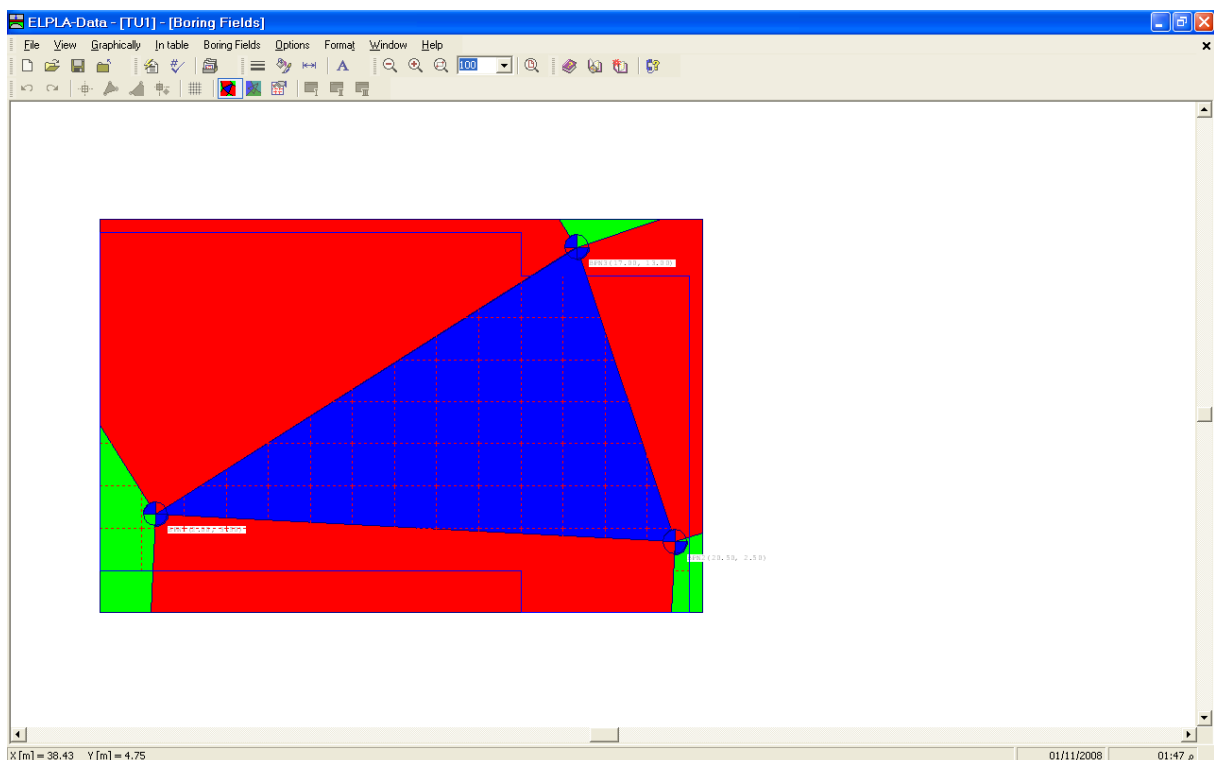

Figure 13-32 "Boring fields" embedded program
To consider the Interpolation Method in the analysis, choose "Boring fields" command from "Data" menu. The following embedded program in Figure 13-32 appears with a default method. *ELPLA* considers that the Interpolation Method is the default one, which takes into account the irregularity of the subsoil. In most cases *ELPLA* defines the interpolation zone types I, II, III automatically such as in this example. But in the case of extreme boring arrangements, the user must define these zones.
- Choose "Save boring fields" command from "File" menu in Figure 13-32 to save the data of boring fields
- Choose "Close boring fields" command from "File" menu in Figure 13-32 to close the "Boring fields" embedded program and return to the main window of *ELPLA-Data*